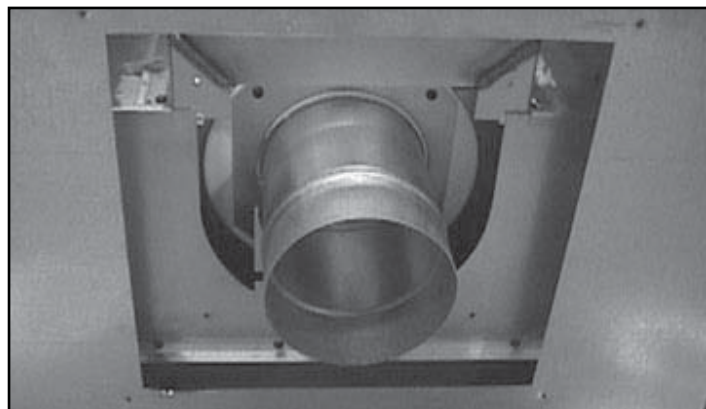

Figure 7.9 Place Inner Collar of Rear of Appliance
- Place the inner collar on the appliance back. Use four screws to hold this collar in place. See Figure 7.9.